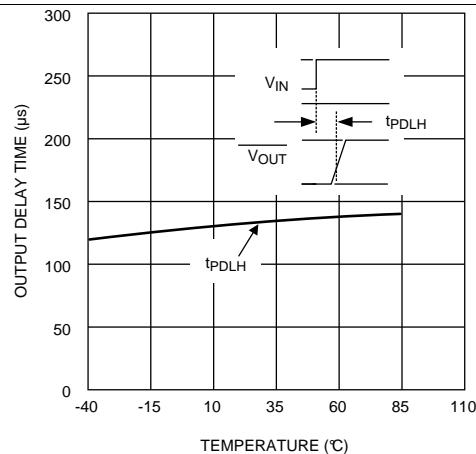

Figure 4. Propagation Delay Time (t_{PDLH}) vs Temperature
* See Figure 4 for tPDLH values